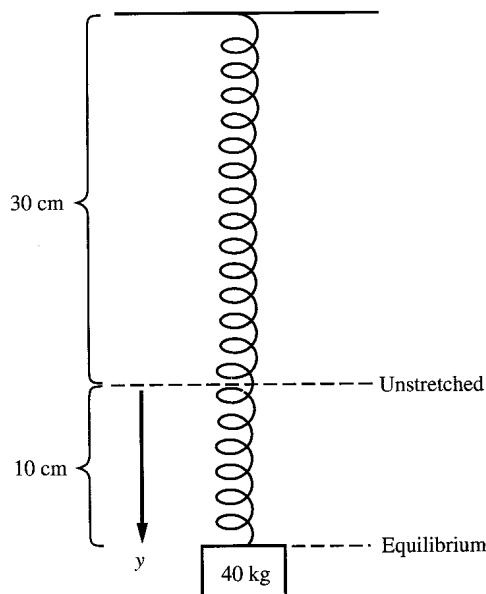

Fig. 11-6
**Problem 11.10.** A light spring hangs vertically from the ceiling. A block of mass 40 kg is attached to the lower end of the spring, and the system is slowly let down until it comes to rest in the equilibrium position. (Fig. 11-6).